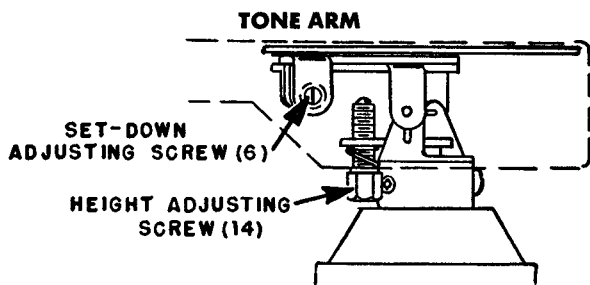

Figure 5. Set-Down and Height Adjustments.
Adjustment of the set-down point, is made by adjusting the set-down adjusting screw (6). See Figure 5. The tone arm will automatically set-
the distance between the needle and the changer pan with the changer out of change cycle. If the needle is more than $\frac{1}{4}$ " above the pan, turn the lift adjustment screw (14, Figure 5) counterclockwise; if less, turn clockwise.